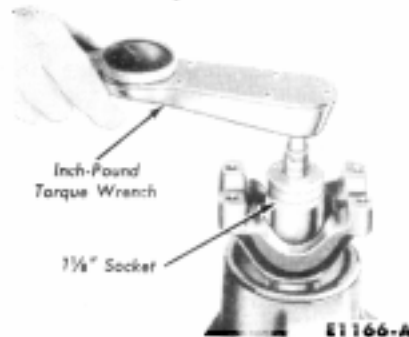

FIG. 18 Checking Pinion Bearing Preload
5. Check the pinion bearing preload (Fig. 18). Disregard the torque required to start the pinion rotating. The specified torque of 10 to 30 in.-lb. refers to the tightening required to keep the pinion rotating after it has been started.
- Check the pinion bearing preload (Fig. 18). The preload should be 20 to 40 in-lb. Add shims to decrease the preload and remove shims to increase the preload.